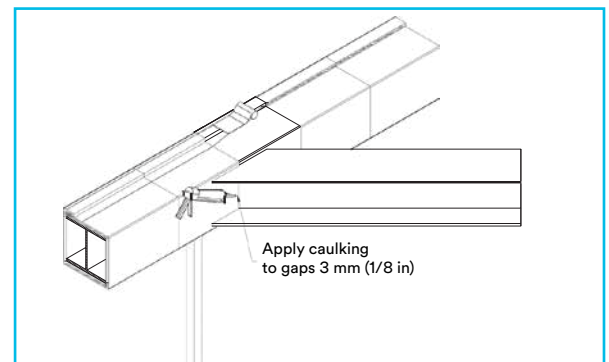

Figure 2
- 2 Secure E-Mat in place with filament tape. Note that the filament tape is for temporary hold only and therefore the amount of tape and spacing to be used is at the installer's discretion. Ensure E-Mat is covering the entire perimeter of beam. If there is a gap between the diagonal member and horizontal beam, E-Mat should cover the gap (*Figure 2*). If a gap of more than 3 mm (1/8 in) remains between installed sections of E-Mat, the gap is to be filled to the full depth of the E-Mat with the 3M™ Fire Barrier Water Tight Sealant 3000 WT. The perimeter and overlap seams of E-Mat are to be covered with 3M™ Aluminum Foil Tape 437 100mm (4 in).